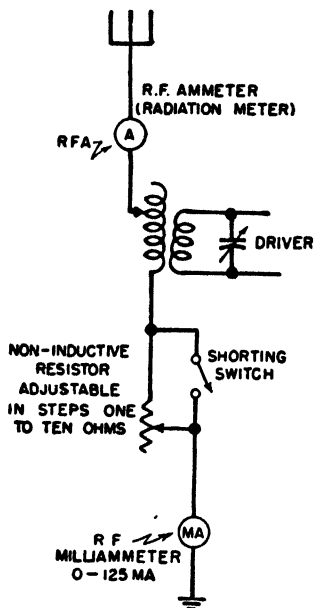

FIG. 4-12.—Circuit for measuring antenna resistance.
*Ans.* Figure 4.12 illustrates the circuit arrangements of the apparatus used for measuring antenna resistance.